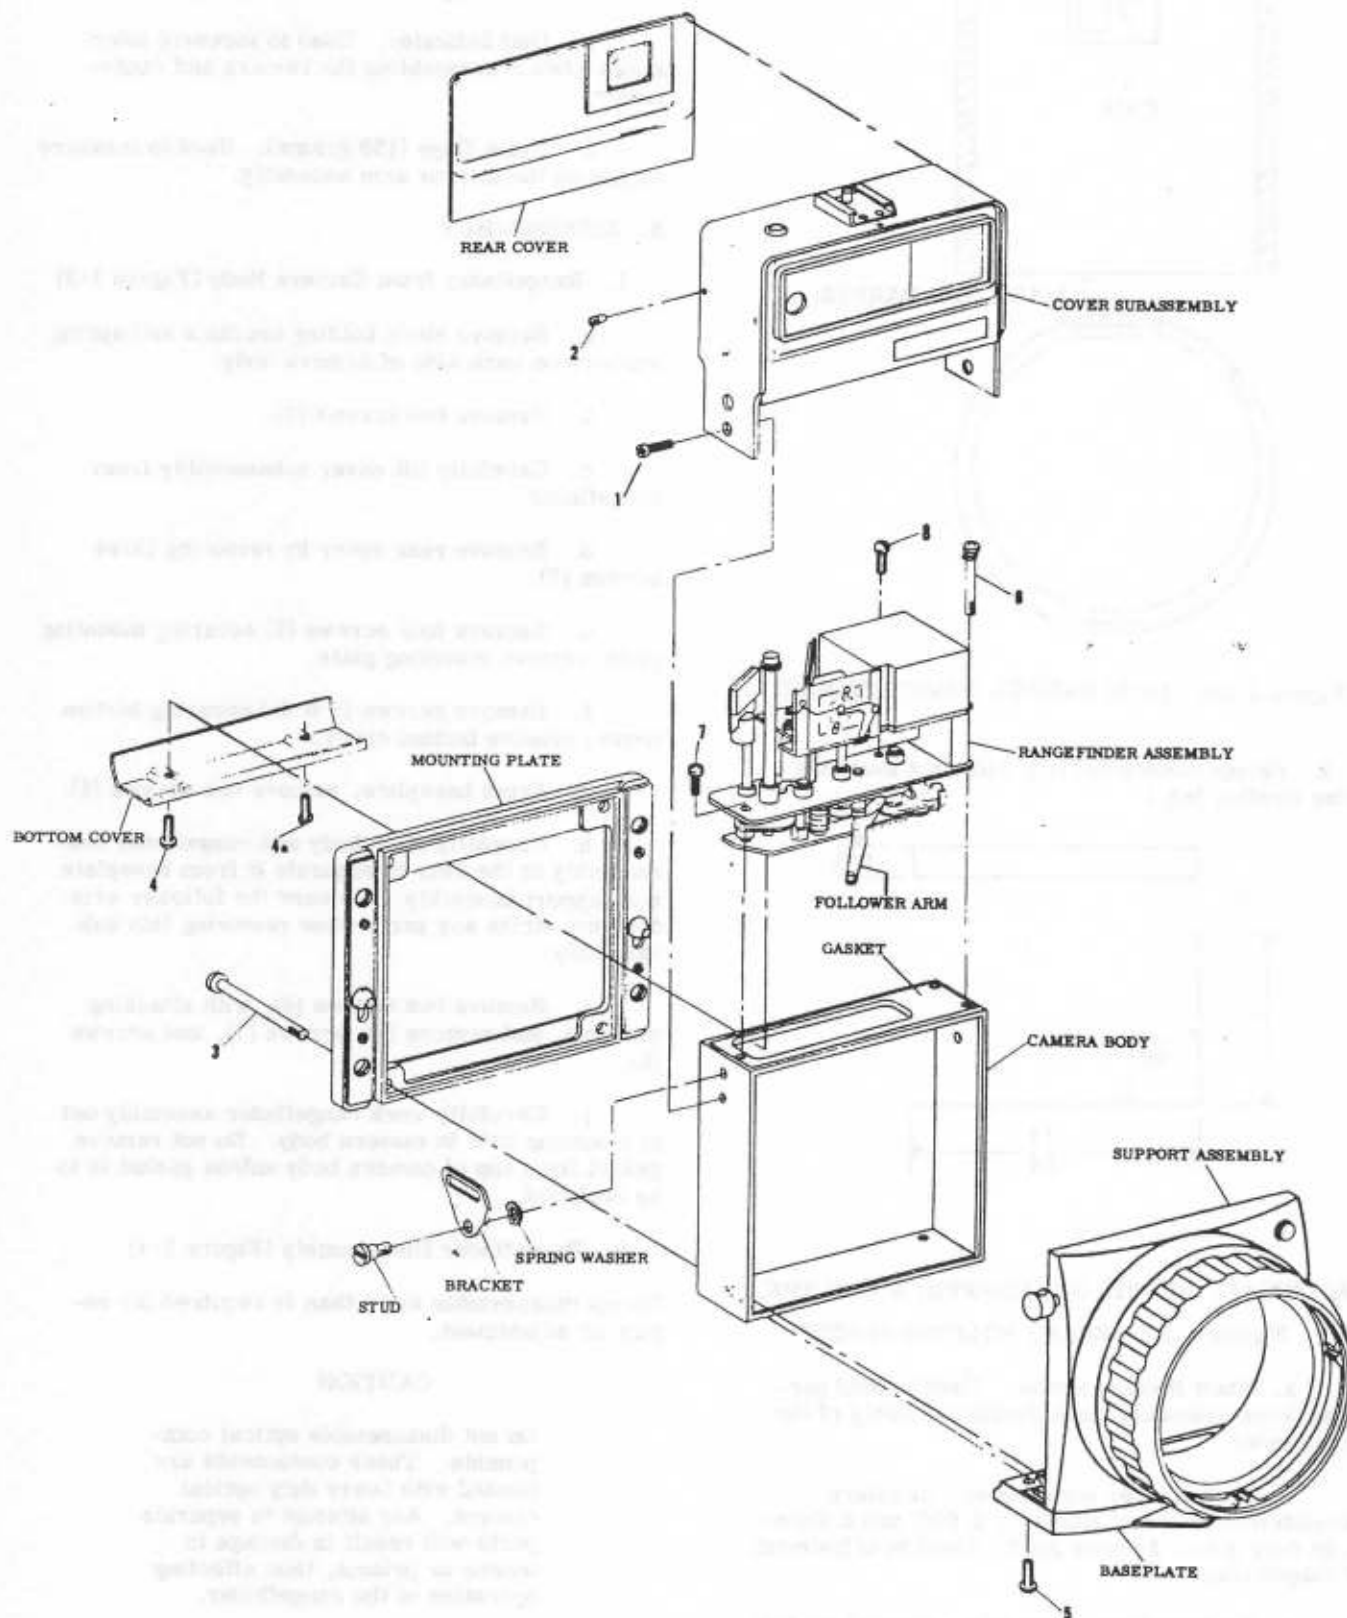

Figure 1-3. REMOVING RANGEFINDER FROM CAMERA BODY
1. Rangefinder from Camera Body (Figure 1-3)
- b. Remove two screws (1).
- d. Remove rear cover by removing three screws (2).
- e. Remove four screws (3) securing mounting plate; remove mounting plate.
- g. From baseplate, remove two screws (5).
- i. Remove two screws (6), with attaching washers, and remove two screws (7), and screws (8).